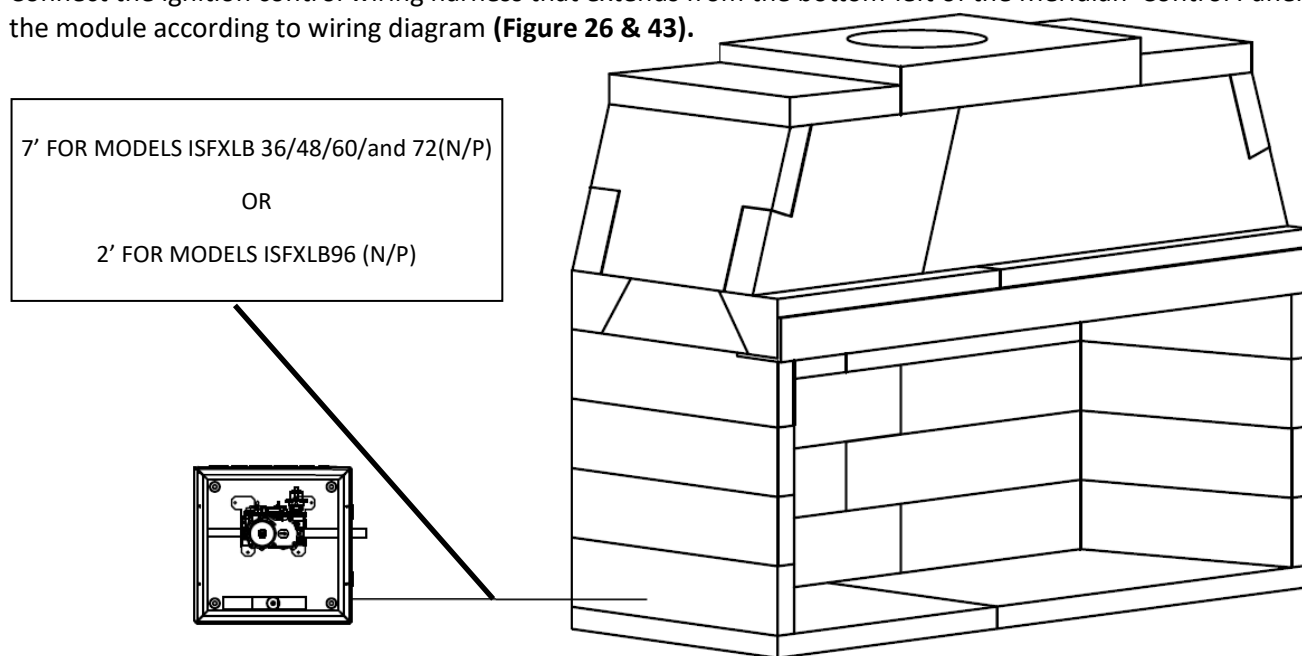

FIGURE 43
- 1) The valve control box comes with an 110" pilot assembly lead; therefore, the box must be mounted within 7' of the fireplace for models ISFXLB36/48/60/72 and within 2' for model ISFXLB96. **(Figure 43)**. This location should be within 4' (48") of the Meridian Control Panel. Valve controls are contained in a 12" x 12" x 4" NEMA1 enclosure.